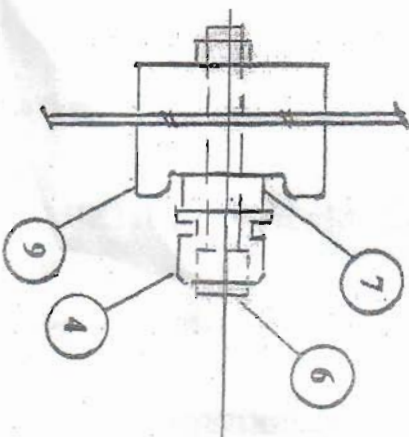

fig 2
2. Using the 8mm SS socket head bolts and the 8mm nylon locking nuts (smaller docking post to the front), attach the docking posts to each of the vacant fender bolt holes outside the backrest. (See fig 2 for bolt to docking post position) Torque to 12 ft. lbs.